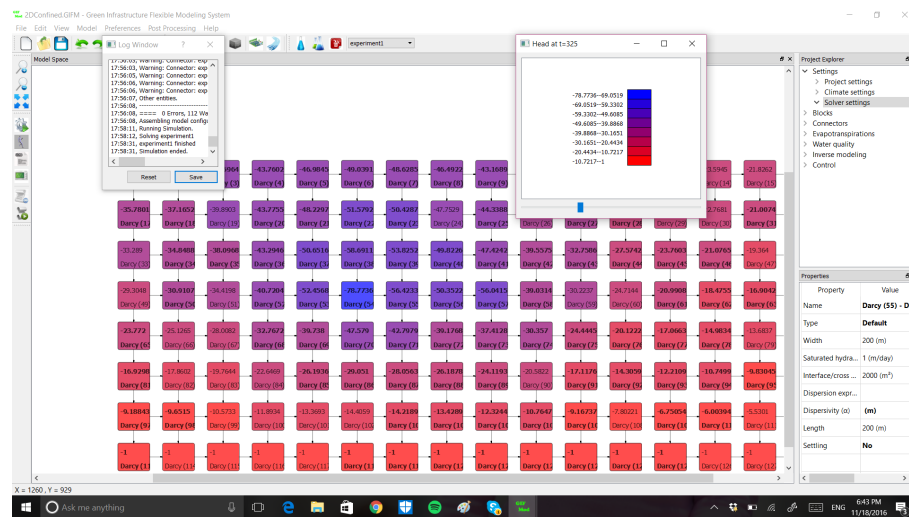

Figure 6: Spatial distribution of hydraulic head at t=325
- **Examining the spatio-temporal variation of state variables:** From the top menu bar click on post-processing and then select **Blocks**→**Head**. Using the scroll bar in the legend box that will appear, change the time at which you would like to see the spatial distribution of hydraulic head over the domain (Figure 6).